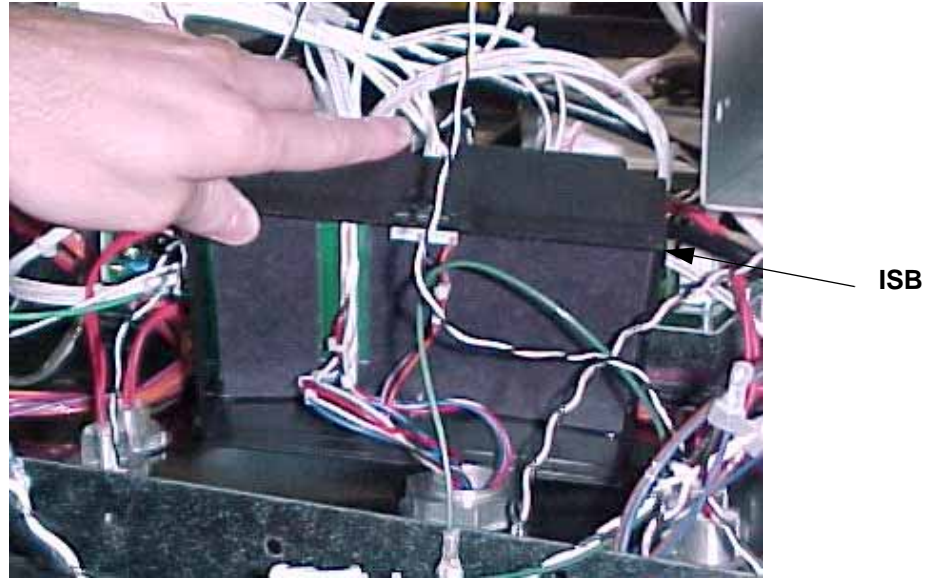

Figure 2-2 Disconnect Wire Harness from ISB
10. Detach the ISB from the vapor barrier, disconnect the Pulsar/Nozzle switch harness, p/n 2-302140-HRN, from the bottom of ISB. See Figure 2-2. Save ISB and all hardware for later use.